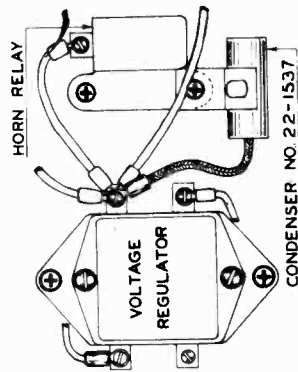

Fig. 4.
1. Remove the top mounting screw of the horn relay near the voltage regulator and under this screw mount the condenser No. 22-1537. Connect the lead to the voltage regulator battery terminal. (Fig. 4.)
4. Loosen sliding tube knob and lower roof tube nut. (See Fig. 4.) (Caution: Upper roof tube nut is not to be loosened at any time!) Allow knob, nut and insulator to slip down and ride loosely on stationary tube. Next slip stationary tube out of the sliding tube and push upper end through hole in moulding behind rear vision mirror until the connector at the bottom of the tube can be dropped into hole in top of instrument panel. Assemble washer and wing nut from below panel.